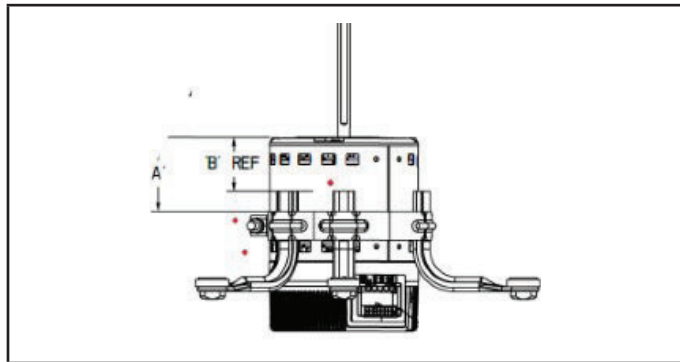

FIGURE 2
- 7 - Set motor band spacing per figure 2.